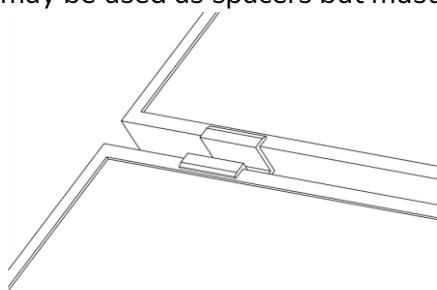

FIG.13 Using middle clamps as spacers
12. The modules must be fitted row by row, starting from the bottom row and following the pre-tightening of the bottom row of end clamps. To mount the modules at equal distances in a row (FIG.13), the middle clamps may be used as spacers but must be removed after assembly.